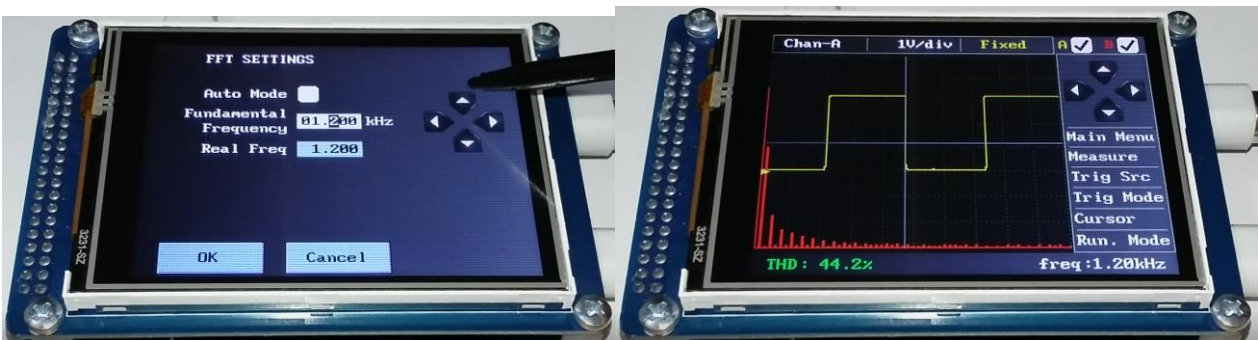

Figure 16. Fixed mode FFT analysis
Sometimes it may not be possible to measure the frequency of some signals (e.g. SPWM, modified sine, etc.). In such cases, it cannot be possible to perform FFT analysis in automatic mode. If the fundamental frequency of the wave is known, the 'Auto Mode' check box is removed from the 'FFT settings' menu and the frequency input is activated. The fundamental frequency of the signal is entered into the 'Fundamental Frequency' section. Below of this section, it can be seen what the set frequency actually would be. As the frequency rises, any deviations may occur between the desired frequency and the actual frequency. The frequency range that can be entered from **20 Hz** to **50 kHz**. In this analysis mode, the horizontal sensitivity section (3) calls 'Fixed' as in (Figure 16).
The amplitude of the harmonic components in FFT analysis, is the same as the vertical sensitivity. The frequency/div ratio is six times as the frequency of the signal. In the example of Figure 16, the frequency/div value is  $1.2 \text{ kHz} * 6 = 7.2 \text{ kHz / div}$ . The number of harmonics shown in the FFT analysis is **60**.